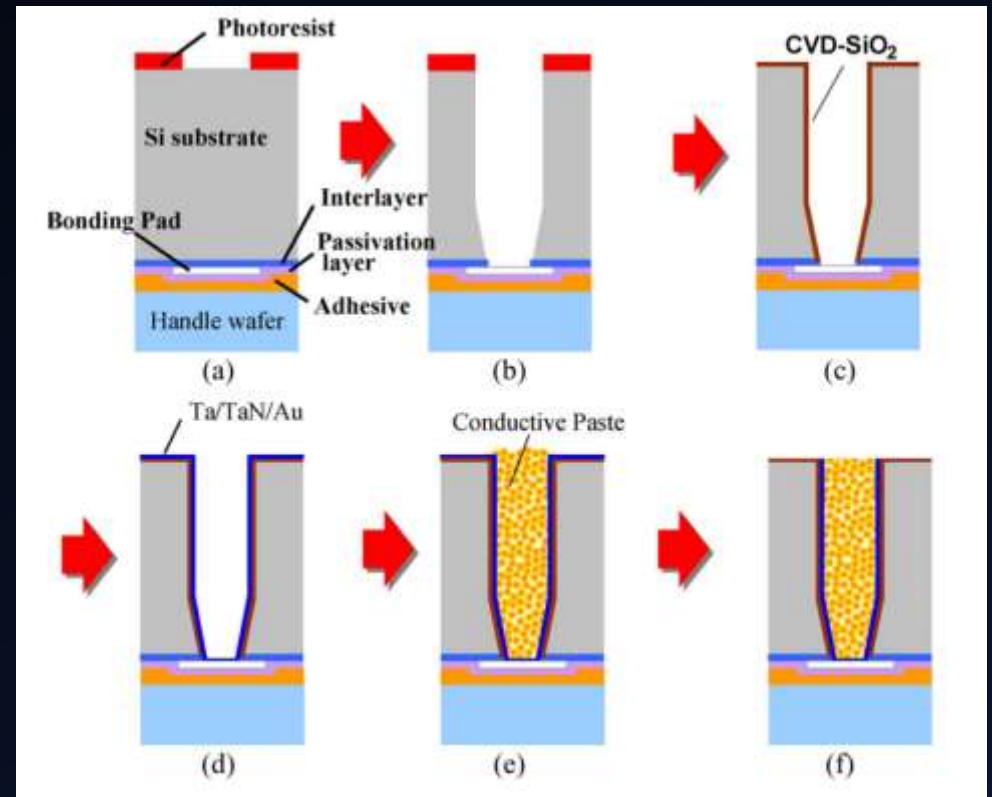

Figure 12 Process flow for a TSV ^[11]
1. The TSV goes through the etching process, forming a cavity. Figure 12 (a)(b).
2. A side-wall insulator is formed by using a low temperature plasma enhanced chemical vapor deposition (PECVD), SiO₂ deposition, and SiO₂ RIE. This is made to create a dielectric insulation to prevent current leakage. Figure 12 (c).
3. Contact and diffusion barrier metal deposition are placed in the TSV cavity. Figure 12 (d).
4. The cavity is now filled with a conductive paste. This is used to reduce process cost. Figure 12 (e).
5. The top of the TSV is shaved off of excess contact metal, conductive paste, and diffusion metal. Figure 12 (f).